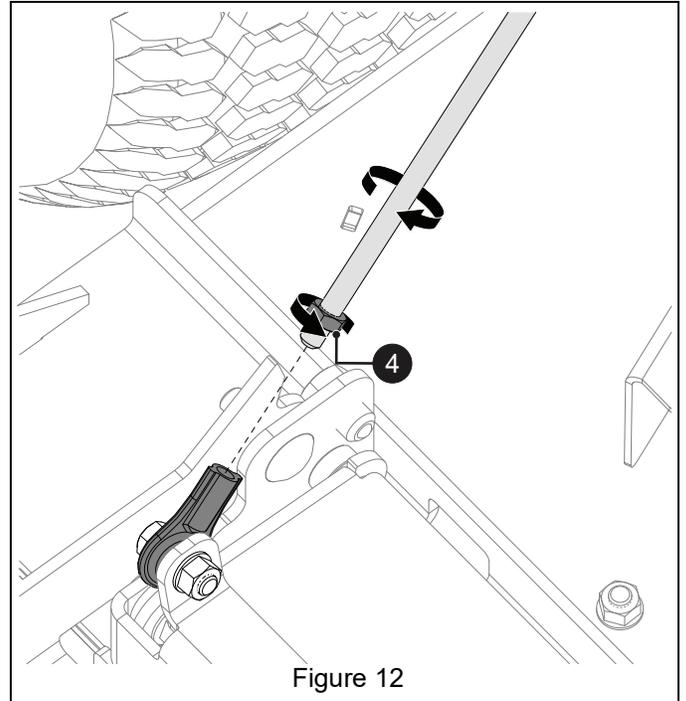

Figure 12
14. Turn jam nut (item 4) up handle threads and turn handle assembly clockwise into ball joint See Figure 12.